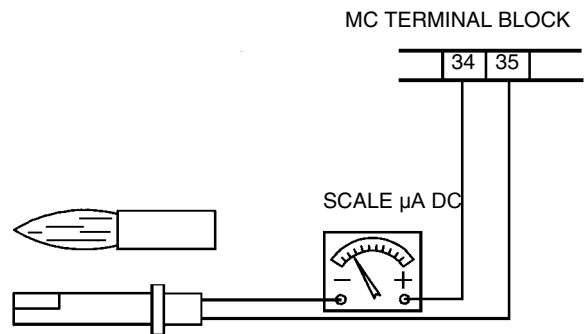

Fig. 25
- check and carefully clean the flame detection photoresistor (page 29), if necessary replace it and, if in doubt, check the detection current following the scheme in Fig. 25;
To measure the detection signal follow the diagram in Fig. 25.